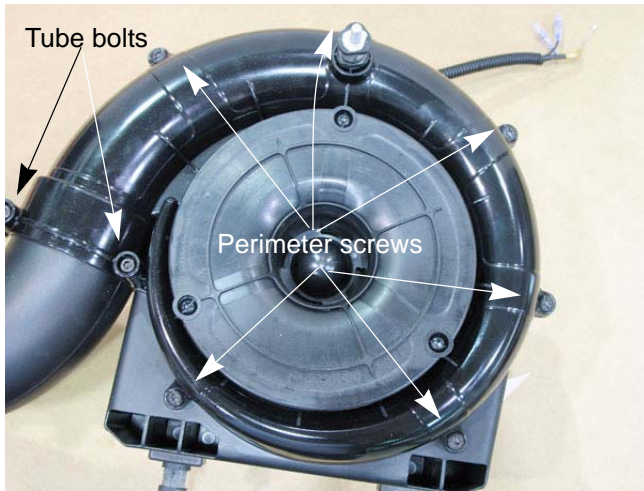

Figure 7.4
- 2a. Remove the six perimeter screws with a T-25 torx driver. See Figure 7.4.
- 2b. Remove the two tube bolts with a 4mm allen wrench. See Figure 7.4.